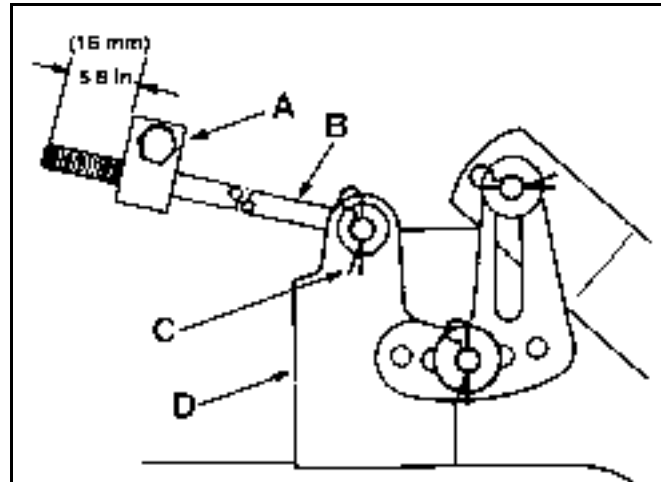

Figure 209
6. Measure the length of the rod extending out of the front of the adjusting block on the sides of the chassis (Figure 209). If the rod length is not 5/8 in. (16mm), remove the hairpin cotter and washer from the end of the rod (Figure 209), and turn the rod until the 5/8 in. (16mm) dimension is obtained. Then install the end of the rod into the hole in the mower mount and secure it in place with the washer and hairpin cotter. Repeat this procedure on the opposite side of the mower.